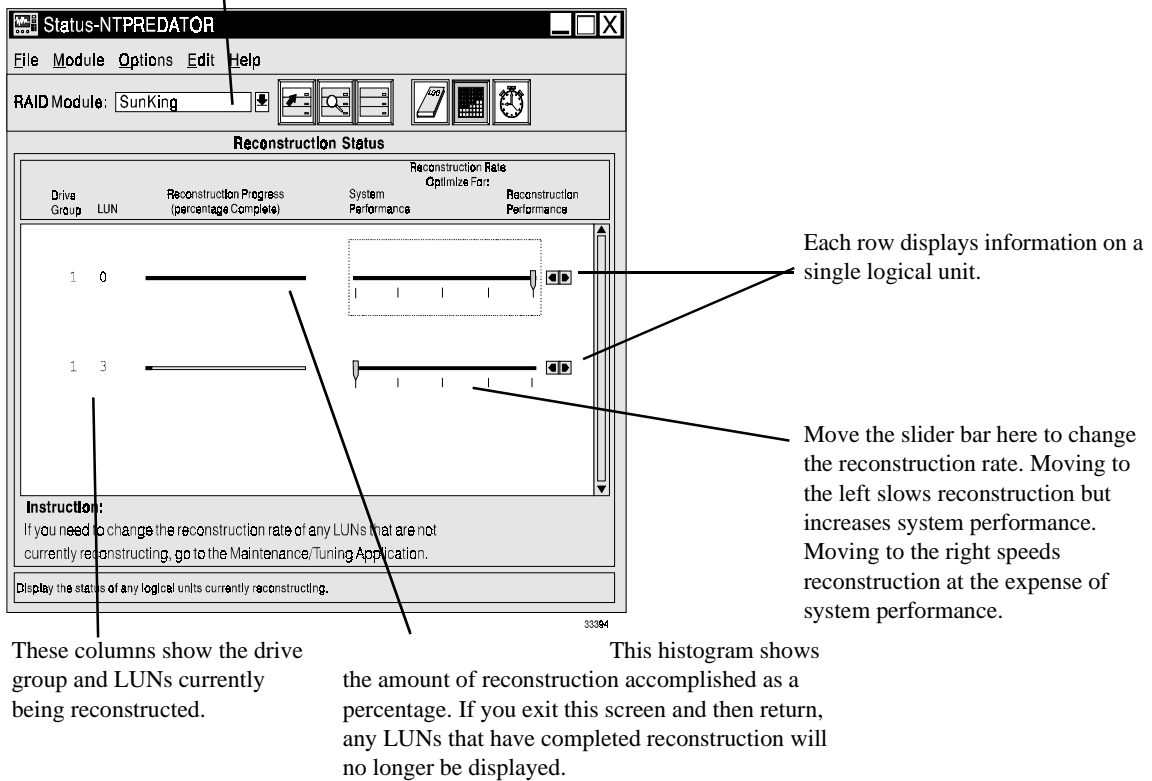

Figure 54. Viewing/Changing Reconstruction Screen
3. Click on the LUN Reconstruction button or select Options → LUN Reconstruction from the drop-down menus. A screen like Figure 54 on page 111 is displayed.